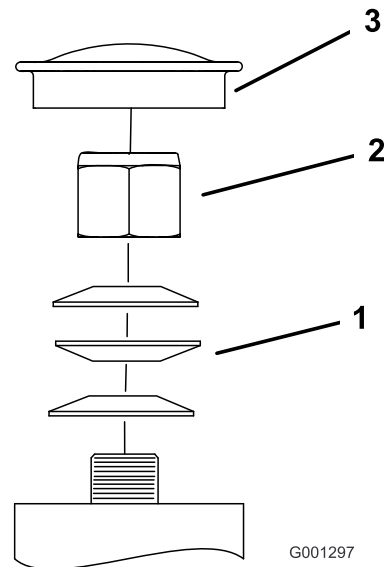

Figure 53
3. Remove the dust cap from caster and tighten the locknut (Figure 53).
4. Tighten the locknut until the spring washers are flat, and then back off a 1/4 turn to properly set the preload on the bearings (Figure 53).
- Important:** Make sure that the spring washers are installed correctly as shown in Figure 53.
5. Install the dust cap (Figure 53).